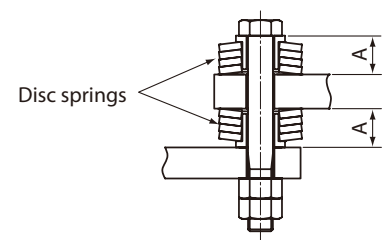

Figure 5-12 Disc Springs
- [4] Attach disc springs (see Figure 5-12) as shock absorbers between the torque arm and the mounting bolt (or spacer) to relieve the impact.
(5) Mounting the Disc Springs (Optional)
- [3] Ensure that there is no gap in the assembly parts (indicated as "A" in Figure 5-12).